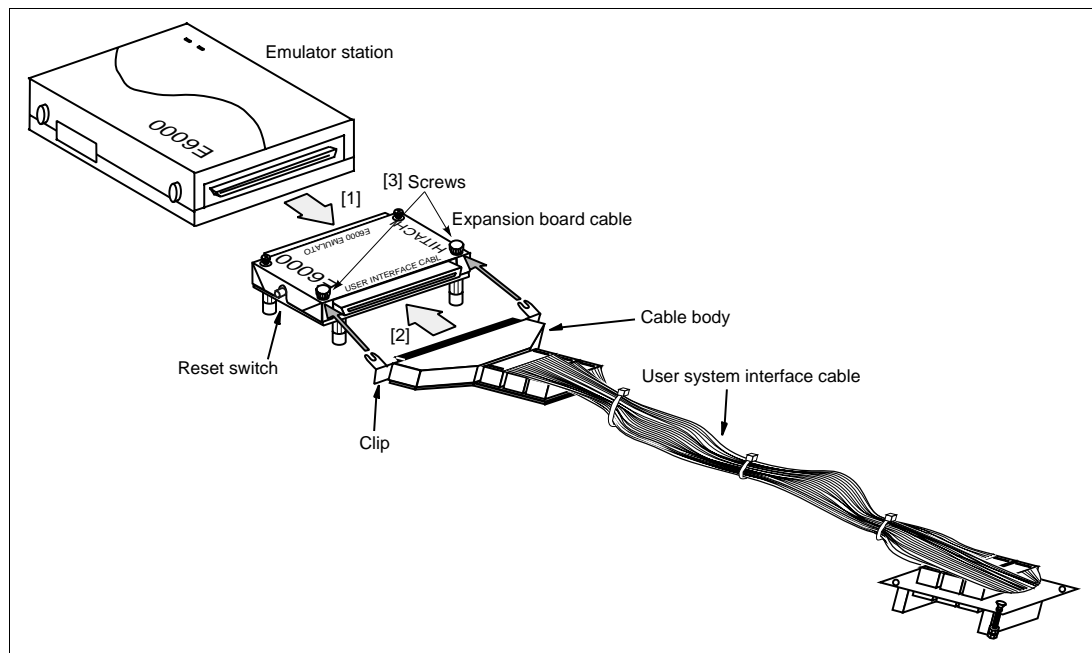

Figure 2 Connecting User System Interface Cable to Expansion Board
2. [1] After making sure the direction of the expansion board connector labeled as E6000 EMULATOR is correct, firmly insert the expansion board connector into the emulator station connector ([1] in figure 2).
[2] To connect the expansion board labeled as USER INTERFACE CABLE and the user system interface cable body, first loosen the two screws ([3] in figure 2) on the expansion board, and place the cable body clips under them.
[3] Tighten the two screws ([3] in figure 2) on the expansion board.